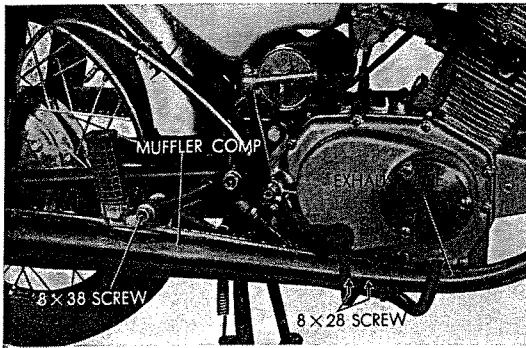

Fig. 4.51 Muffler mounting bolt
4. The muffler is secured together with the footrest. By loosening the 2x58 hex bolts, the exhaust pipe and muffler are separated as a unit from the frame. (Refer to Fig. 4.51)